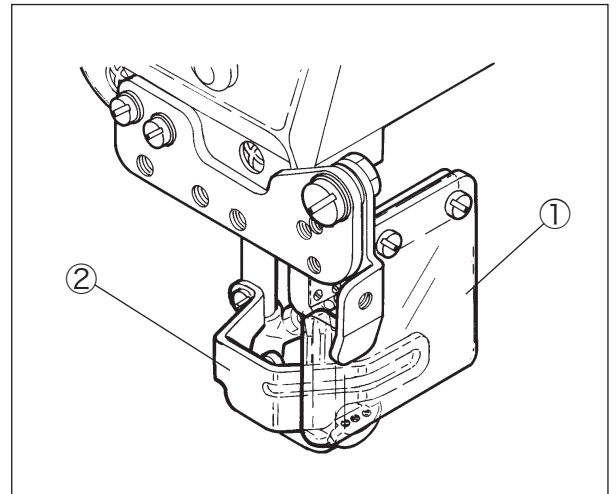

Fig. 2-12
- (2) For the table top type, fix the belt cover (lower) ⑥ on the machine table. (Fig. 2-12)